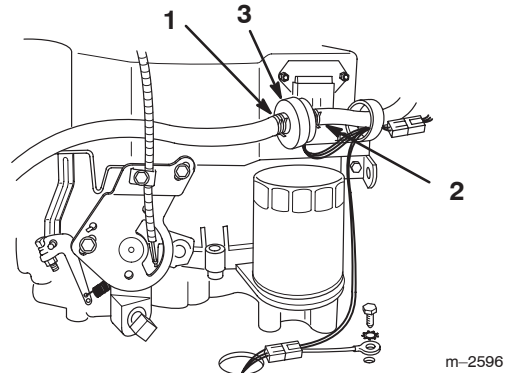

Figure 30
3. Squeeze the ends of the hose clamps together and slide them away from the filter (Fig. 30).